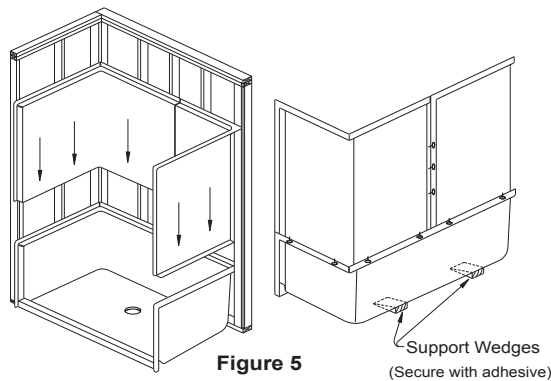

Figure 5
1. Install drain and/or overflow assembly on unit following drain manufacturer's instructions. Place support wedges under the back edge and secure. Place the base unit in the install location. Level the unit. A minimum of two shims should be used for proper support. (See *Figure 5*). Re-check level and attach base to framing studs with 6D galvanized screws.
3. Place the walls on the top of the base aligning the holes with the pins. For three and four piece units, install the left wall first. Repeating the same for the right wall. Press all seams together to assure a tight fit. Wipe away any excess caulking. See *Figure 5*.